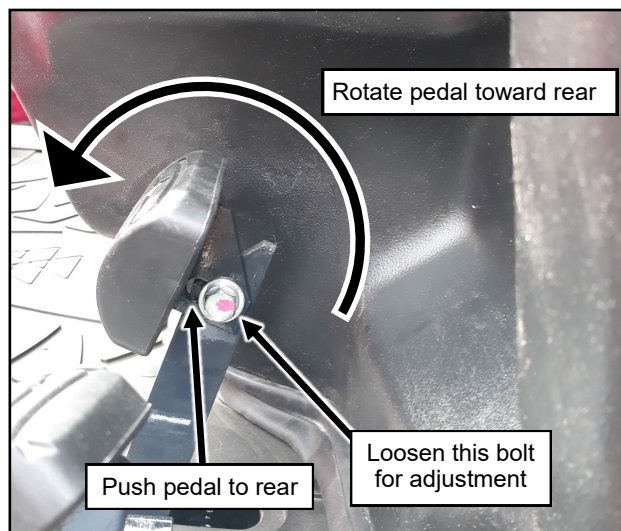

Fig. 1.9 (Adjust Accelerator Pedal)
- 1.9** Per Figure 1.9, loosen the bolt holding the accelerator pedal to the lever.
**NOTE:** *GC1725M Accelerator pedal shown in Figures 1.9 and 1.10. Adjustment procedure is identical for GC1723E.*